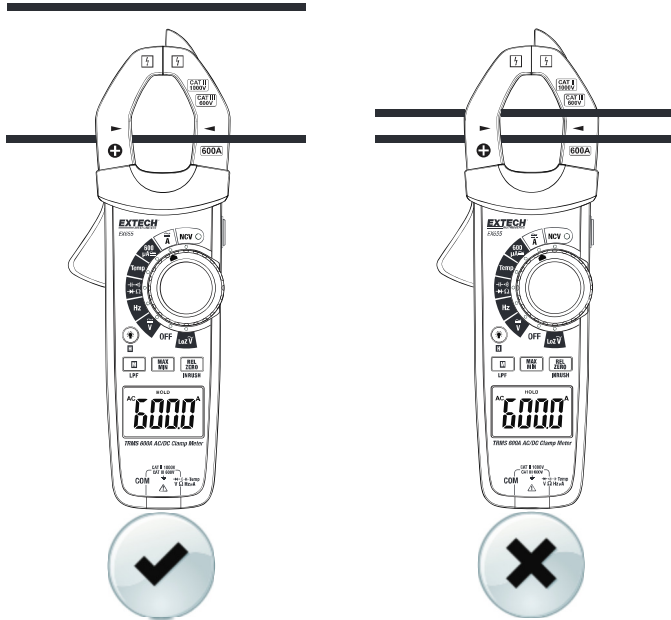

Fig. 4-3 Correct and Incorrect Clamping
4. Press the trigger to open the clamp jaws. Fully enclose only one conductor in the jaws (Refer to Fig. 4-3). For optimum results, center the conductor in the jaws.